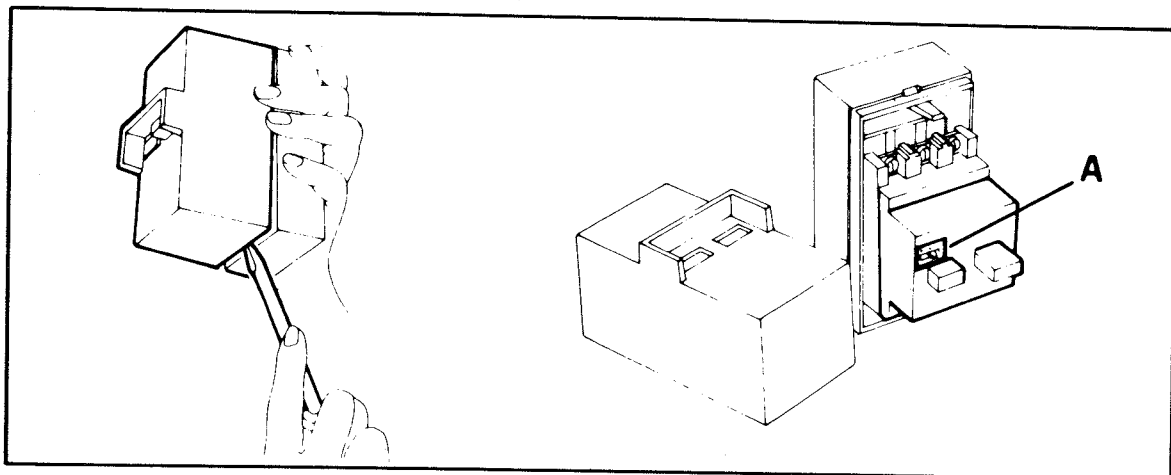

FIGURE 22
The Box Sealer is equipped with a circuit breaker which trips the "On-Off" switch to "OFF" position. Located inside the electrical control box on the side of the main frame just below the conveyor bed, the circuit breaker has been pre-set for 5 amps and requires no further maintenance. Should the circuit breaker be replaced, check the amp setting before installation. Remove the front cover on the electrical box from the under side as shown in figure 22 and set the amp setting (A) at 5 amps.